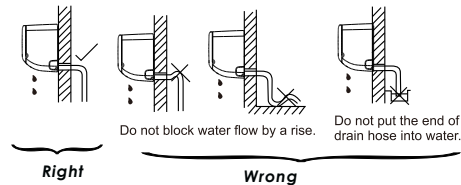

Fig. 5
1. Run the drain hose sloping downward. Do not install the drain hose as illustrated in Fig. 5.